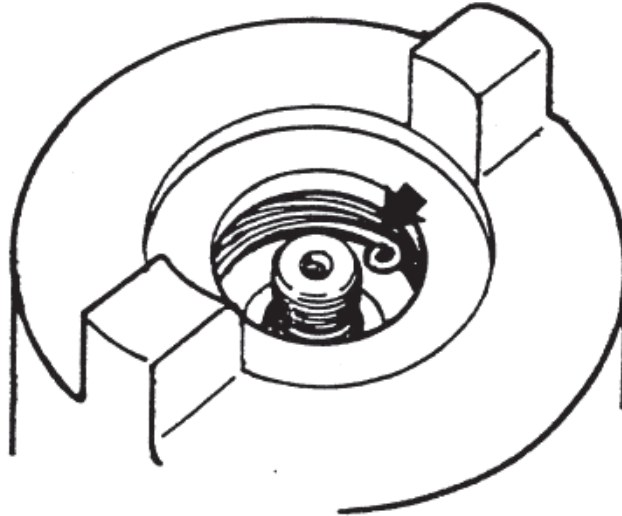

Figure 4-2. Spring Engaged with Cam
1. Using heavy gloves or a clean shop towel, grasp the coupling body (46) firmly. Pull outward on the coupling body only enough to release it from cam assembly (48).
2. Keep the coupling body (46) close against the cam (48) and allow the body to turn as the spring (47) unwinds. After one or two turns, the spring coils will wedge against projections on the body, restraining the spring from further unwinding.
3. Look into the hole in body (46) and note the location of the inner eye of the spring (47) where it engages with the mating recess in cam hub (Figure 4-2). If necessary, insert a screwdriver under the spring end and pry the spring eye out of the recess.
4. Remove the body (46) and spring (47) together. Uncoil the spring from the body and pry the spring eye from body recess so that the spring is disengaged. Discard the spring.